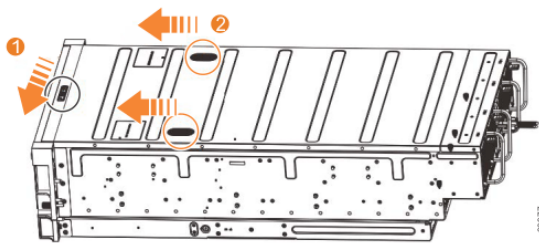

Figure 24. Releasing the 5U expansion enclosure cover
1. Slide the release latch (1) in the direction that is shown in Figure 24 on page 42.
2. Slide the cover toward the front of the expansion enclosure (2), as shown in Figure 24 on page 42.